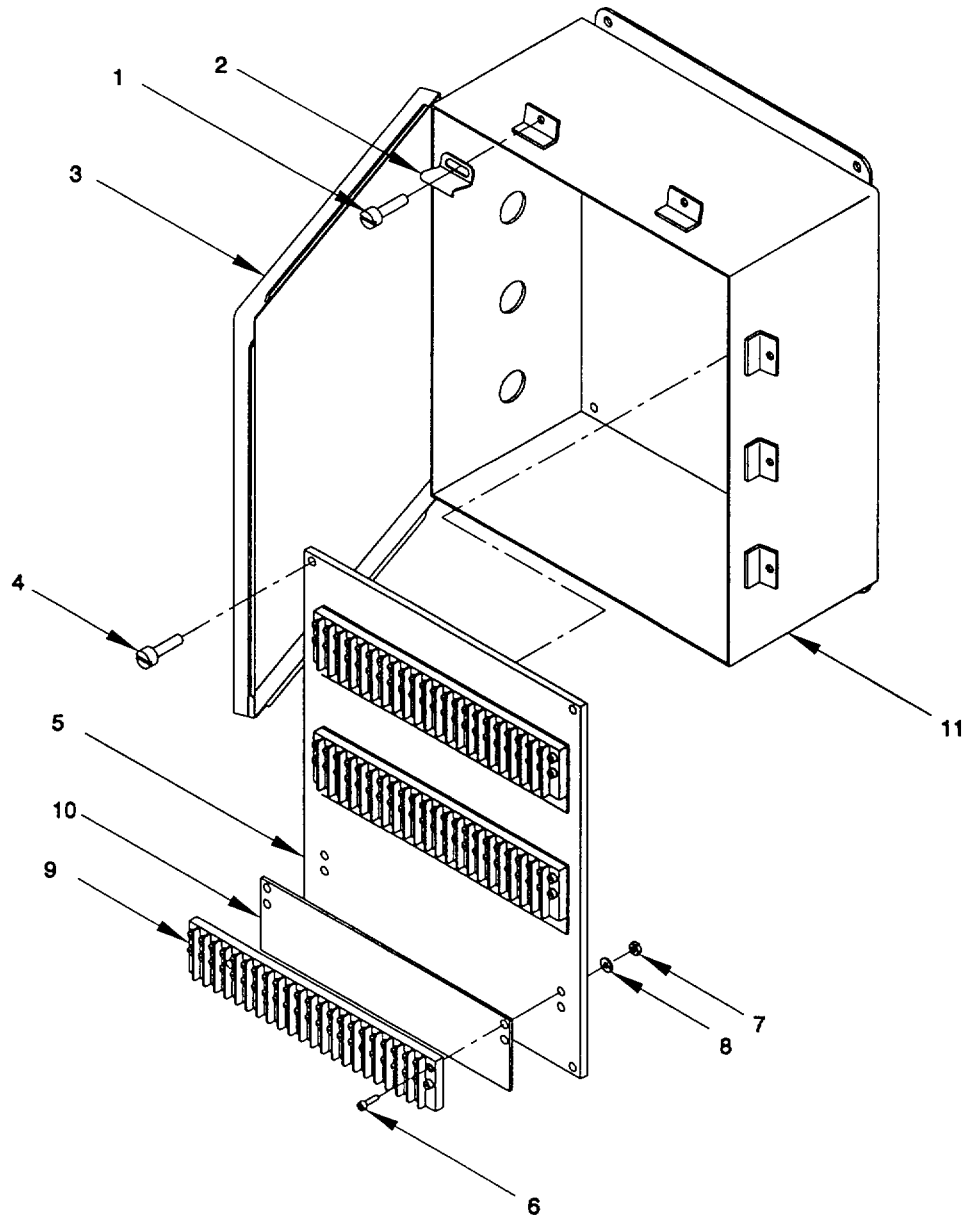

Figure 2-60. Terminal Block, Propulsion Module Junction Box "A3". Remove/Install
a. *Remove.* (figure 2-60)
- (1) Remove or loosen seven screws (1) and seven clamps (2) securing cover (3) to enclosure (11). Swing cover (3) open.
- (2) Disconnect and tag electrical wiring to terminal block (9). Refer to Appendix G.
- (3) Remove four screws (4) securing panel (5) to enclosure (11). Lift panel (5) enough to access the rear of the panel (6).
- (4) Remove four pan head screws (6), four insert nuts (7) and four lock washers (8) securing terminal block (9) to panel (5). Remove terminal block (9) and marker strip (10).
b. *Install.* (figure 2-60)
- (1) Apply sealing compound to screws (1 and 4).
- (2) Install marker strip (10) and new terminal block (9). Secure terminal block (9) with four pan head screws (6), four lock washers (8) and four insert nuts (7).
- (3) Install panel (5) in enclosure (11). Secure panel (5) with four screws (4).
- (4) Reconnect electrical wiring, as tagged, to terminal block (9). Refer to Appendix G.
- (5) Close cover (3) and secure with seven clamps (2) and seven screws (1).